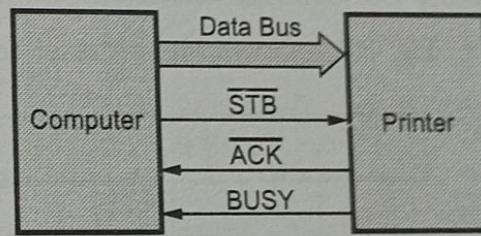

Fig. 3.4.3 Data transfer between computer and printer using handshaking signals
- Fig. 3.4.3 shows data transfer between computer and printer using handshaking signals. These handshaking signals are used to tell computer whether printer is ready to accept the data or not. If printer is ready to accept the data then after sending data on data bus, computer uses another handshaking signal (STB) to tell printer that valid data is available on the data bus.